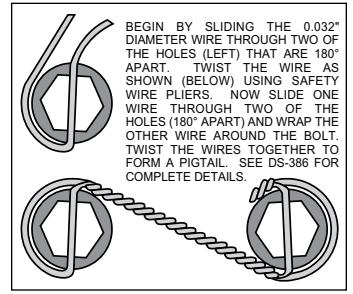

Figure 3. Safety Wire Diagram
- Orient the rotor (9) and the hat (10) as shown in Figure 1 and Photo 5. Attach rotor to hat using bolts (11) and washers (12). Apply red *Loctite®* 271 to the bolt threads and torque to 155 in-lb using a criss-cross pattern. For an added measure of security, the bolts may be safety wired using standard 0.032 inch diameter stainless steel safety wire as shown in Figure 3. Refer to Wilwood's data sheet DS-386 (available at [www.wilwood.com/Pdf/DataSheets/ds386.pdf](http://www.wilwood.com/Pdf/DataSheets/ds386.pdf)) for complete safety wire installation instructions.